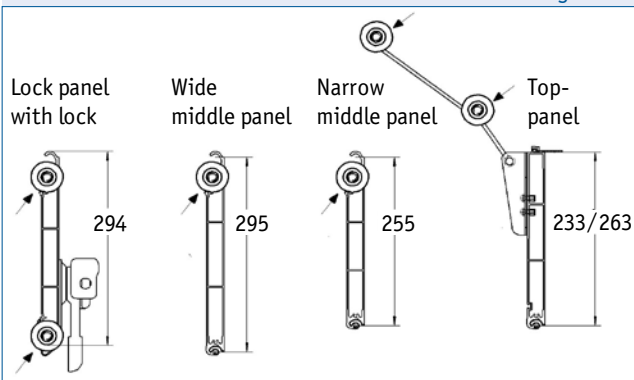

Fig. 3.2.2
- Slide the running rollers into the plastic sockets. The rollers for the uppermost panel (top panel) are inserted into the double roll brackets where two rolls per side are employed here (Fig. 3.2.2).